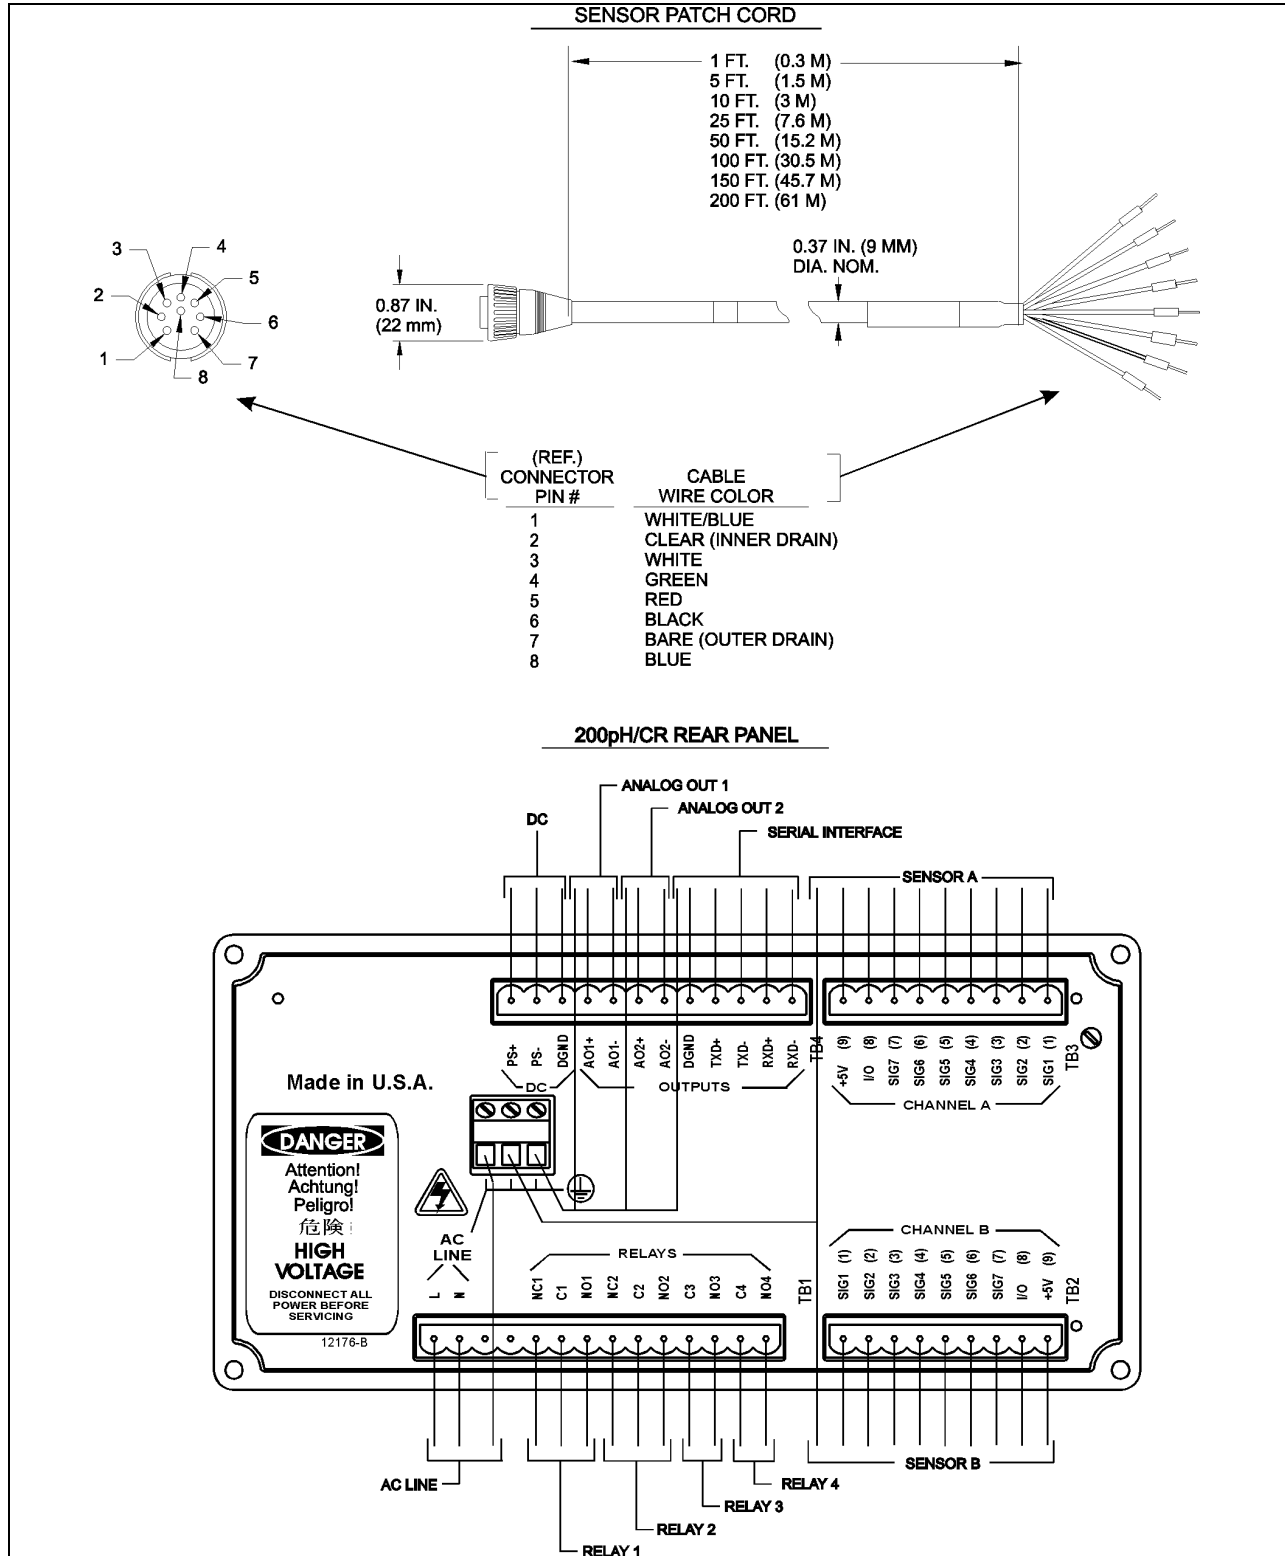

Figure 14.8: Rear Panel Wiring & Patch Cords
8. Wire the cable to the 200pH/CR as indicated. See Figure 14.8 and Table 2.5.